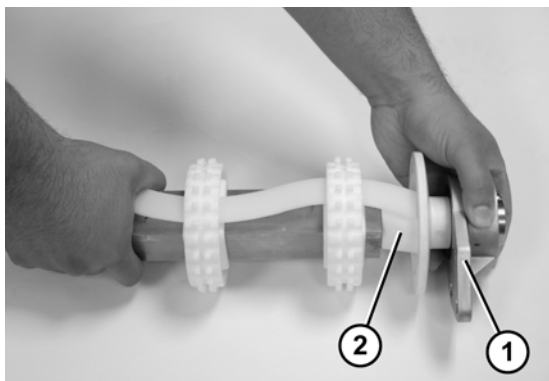

Figure 67
9. Slide the 3 hole flange with bearing (**Figure 67, item 1**) and flanged puck (**Figure 67, item 2**) off the drive spindle.